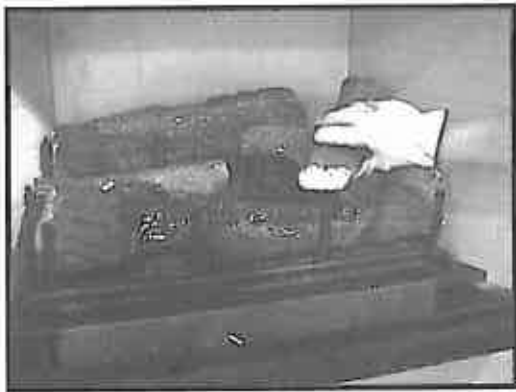

Figure 35
2. Remove the top right log. See Figure 35.